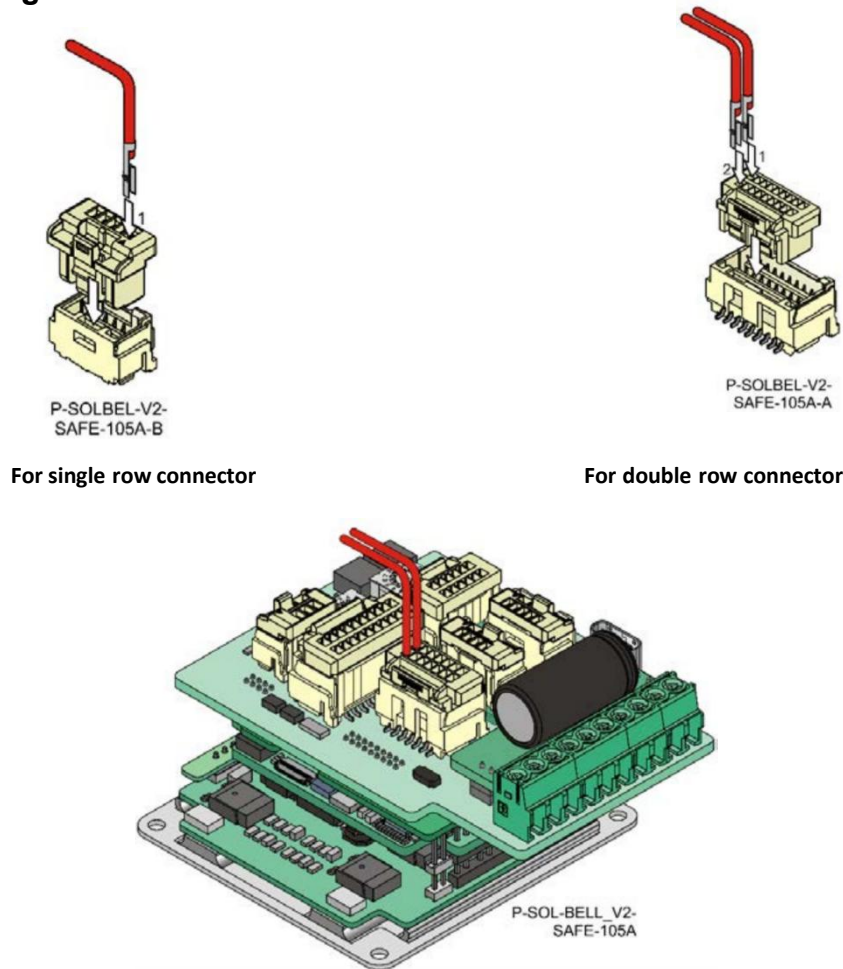

Figure 7: Inserting a wire/pin to the Female CON CLIK-MATE Connector
3. Place the connector on a flat surface, in the orientation as shown in Figure 7. Notice that the rectangular slot has a niche at the bottom of the slot.
4. Insert the wire connector to the slot as shown in Figure 7. Make sure that the connector protrusion is inserted to the bottom of the rectangular slot. When inserting the wire connector to a slot in the second row, make sure to orientate the wire pin in the direction shown in Figure 7.